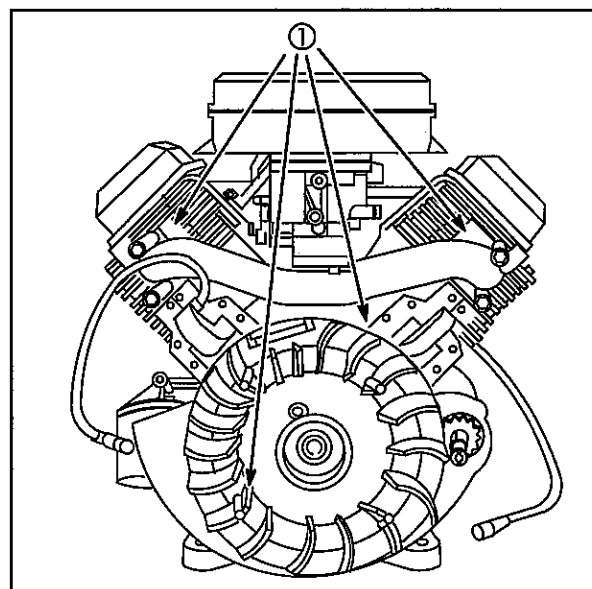

Fig. 25
Fig. 25 shows the blower housing removed and areas to be cleaned (1) on the Vanguard™ engine.